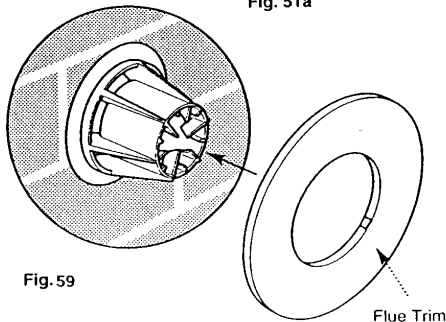

Fig. 59
10. The flue trim provided may be fitted if required, to neaten up the make-up around the terminal (Fig. 59).